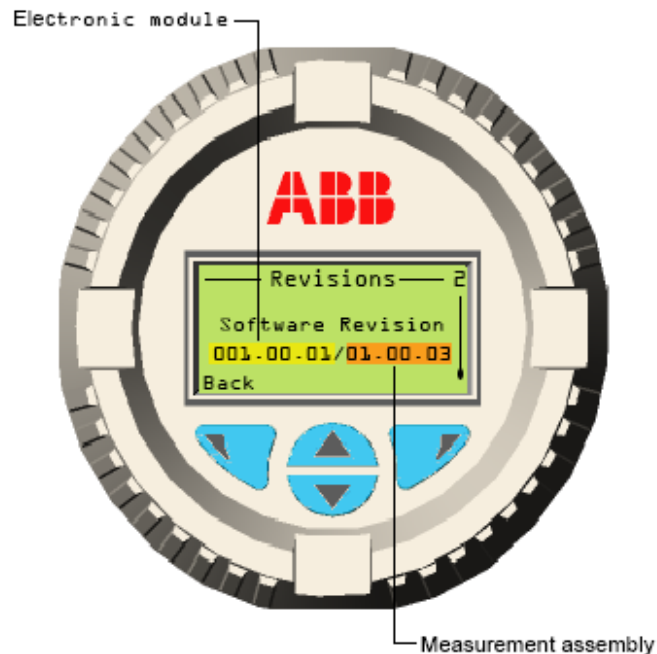

Figure 38: Software revision numbers
- c. View the software revision (Figure 38). The first seven (7) digits before the slash mark represent the electronic module software revision and the six (6) digits following the slash mark represent the measurement assembly software revision.